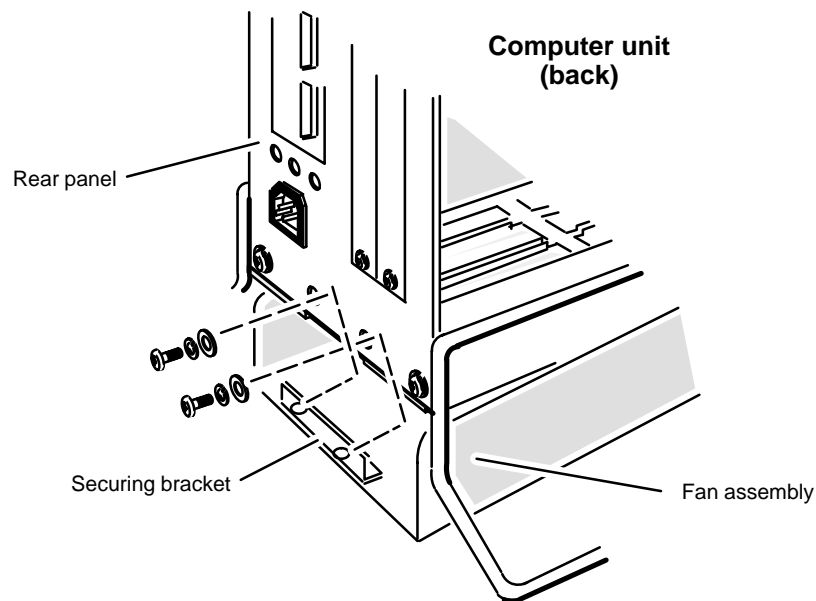

Figure 11-6 Securing the Fan Assembly to the Back of the Computer Unit
4. Use one hand to lift and support the back of the fan assembly in position, and align the assembly and computer unit screw holes as shown in Figure 11-6.
5. Using a medium Phillips screwdriver, secure the fan assembly to the back of the computer unit with the two screws and washers shown in Figure 11-6.